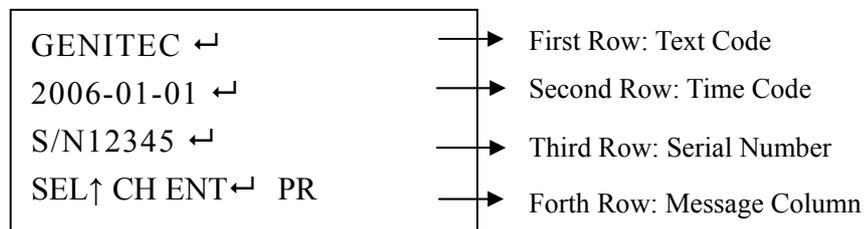

Figure 5
4. Press the button  on the panel board; the screen will display standard code info. Please refer to figure 5 :